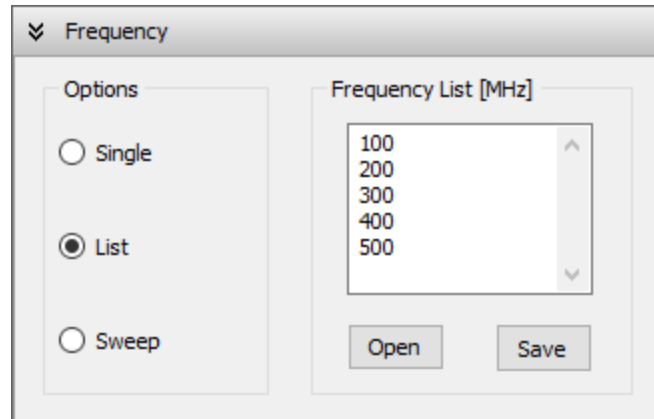

Fig. 2: Frequency panel in the Setup tab with a list of frequencies specified.
- **List:** Enter multiple frequencies in the *Frequency List* box (**Fig. 2**). You can import a list from a text file using the **Open** button, or export the current list using the **Save** button.